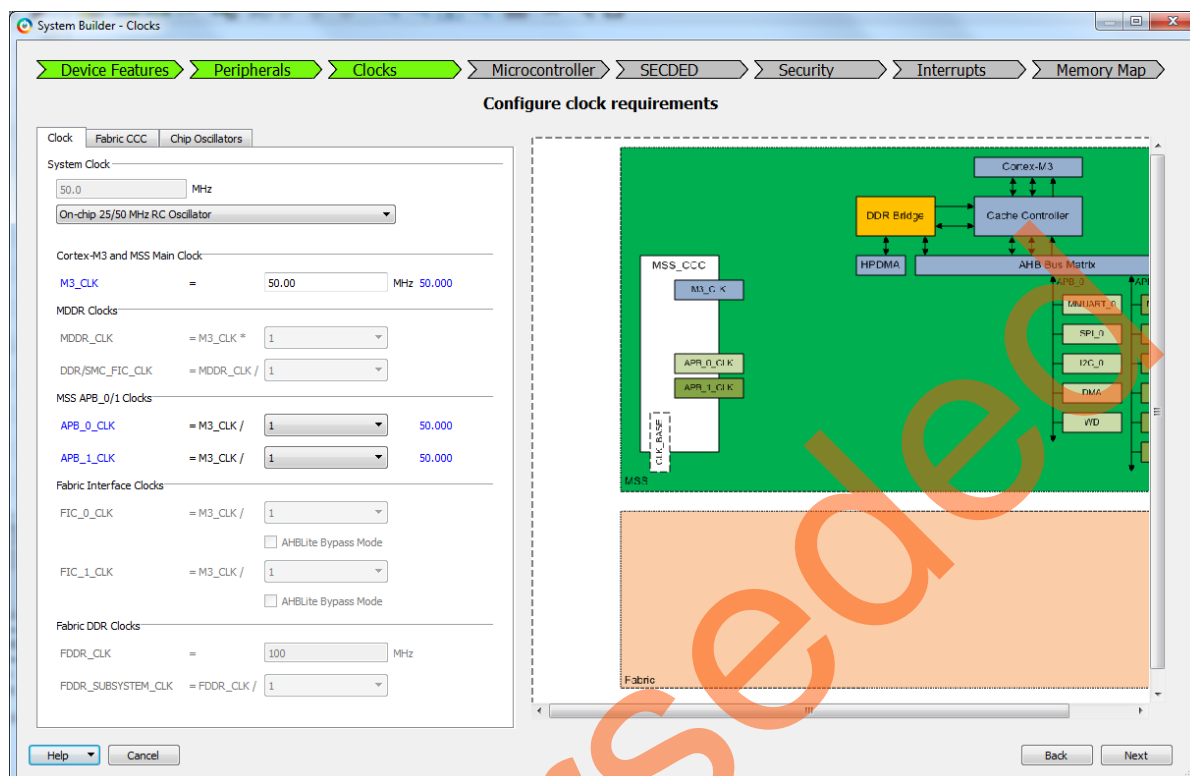

Figure 9 • MSS Clock Conditioning Circuitry Configurator
10. Go to **System Builder - Clocks** as shown in Figure 9 on page 13: